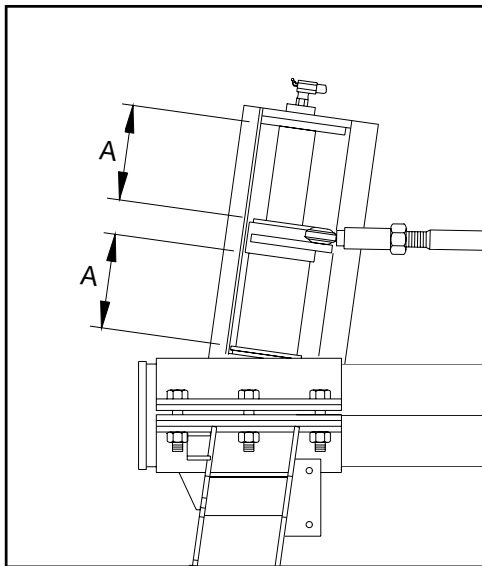

FIG 7.61
1. Adjust Hydra-Hug® suspension until dimensions above and below steering arm are equal (fig. 7.61, dim. A — See page 87).